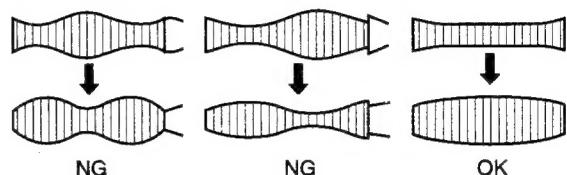

Fig. 2-7-9 Abnormal waveform variation
- If the envelope varies like NG figures as shown in Fig. 2-7-9, perform the adjustment again since it is abnormal.